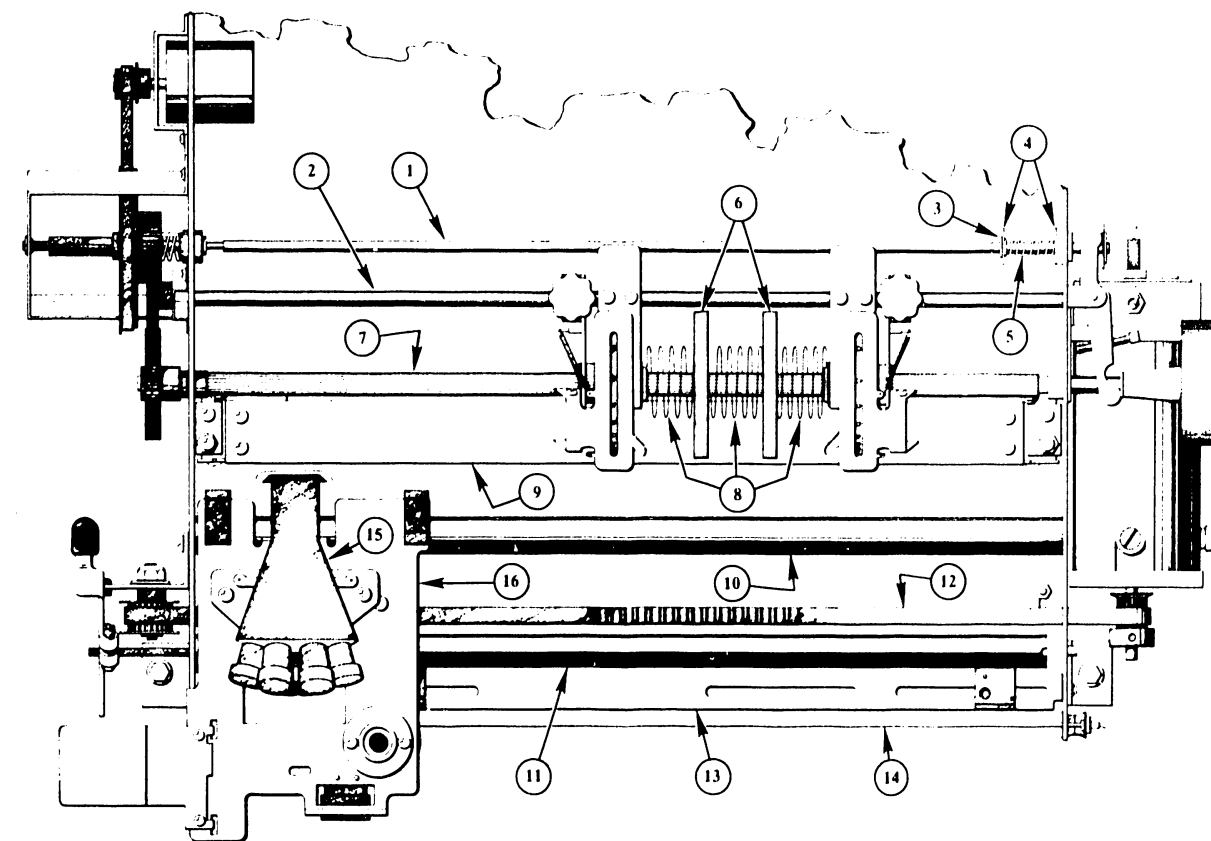

FIGURE 8-2 SHAFT ASSEMBLY LOCATIONS
1. Using two 7/16" wrenches, loosen nut (2a, Figure 8-4) on idler pulley stud (2d, Figure 8-4) to release tension on carriage drive belt (12, Figure 8-2).
2. Disconnect timing belt (12, Figure 8-2) from idler pulley (2i, Figure 8-4).
- 5) Remove carriage drive timing belt (12, Figure 8-2) from carriage servo drive motor pulley (5b, Figure 8-3).
- 6) Remove the two bumpers (28) from carriage shaft (26) and slide carriage assembly (16, Figure 8-2) off of carriage shaft (26). (See Figure 8-4.)
- 2) Remove print head (15, Figure 8-2) from carriage assembly (16, Figure 8-2) by removing fingerboard 7378 from connector and removing the two screws (9, Figure 8-5) holding the print head to the carriage assembly.
- 3) Remove the socket head screw (8) securing each cartridge guide (12) to the carriage plate assembly.
8.3.2 SHAFT ASSEMBLIES PARTS LIST (SEE FIGURE 8-2)